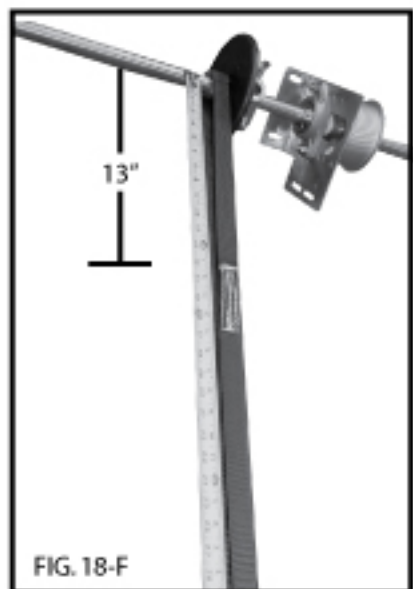

FIG. 18-F
- 18-7:** Slide the remaining guide disk on the shaft with the smooth side towards the strap. Slide remaining winding hub on the shaft with the set screws away from the guide disk. (FIG. 18-H)